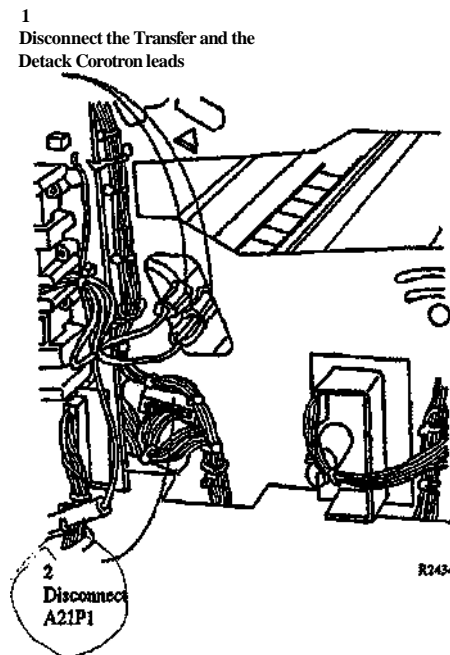

Figure 1. Disconnecting the Connectors
3. (Figure 1): Disconnect the connectors at the rear of the printer.